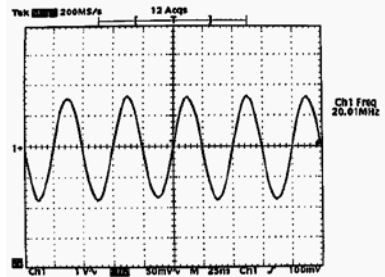

Figure 4.
6. Verify the operation of the crystal on Pin 10 of U7 (Figure 4).